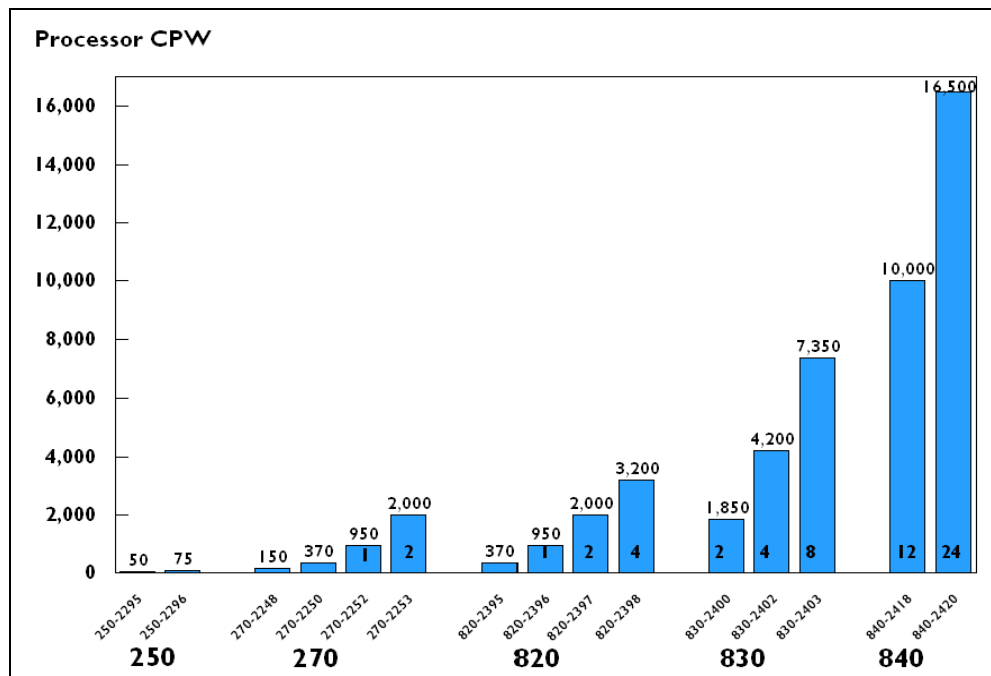

Figure 1. AS/400 scalability
- **Scalability:** AS/400 systems cover a wide range of performance capacities. AS/400e servers 1XX, 2XX, 7XX, and 8XX provide many processor options to choose from based on the performance requirements. At the high end of these servers, the AS/400e server 840 with 24 central processors provides 330 times the performance boost over the smallest model 250. Figure 1 shows performance span of newest AS/400 models 250, 270, 820, 830, and 840, measured in Commercial Processor Workload (CPW).